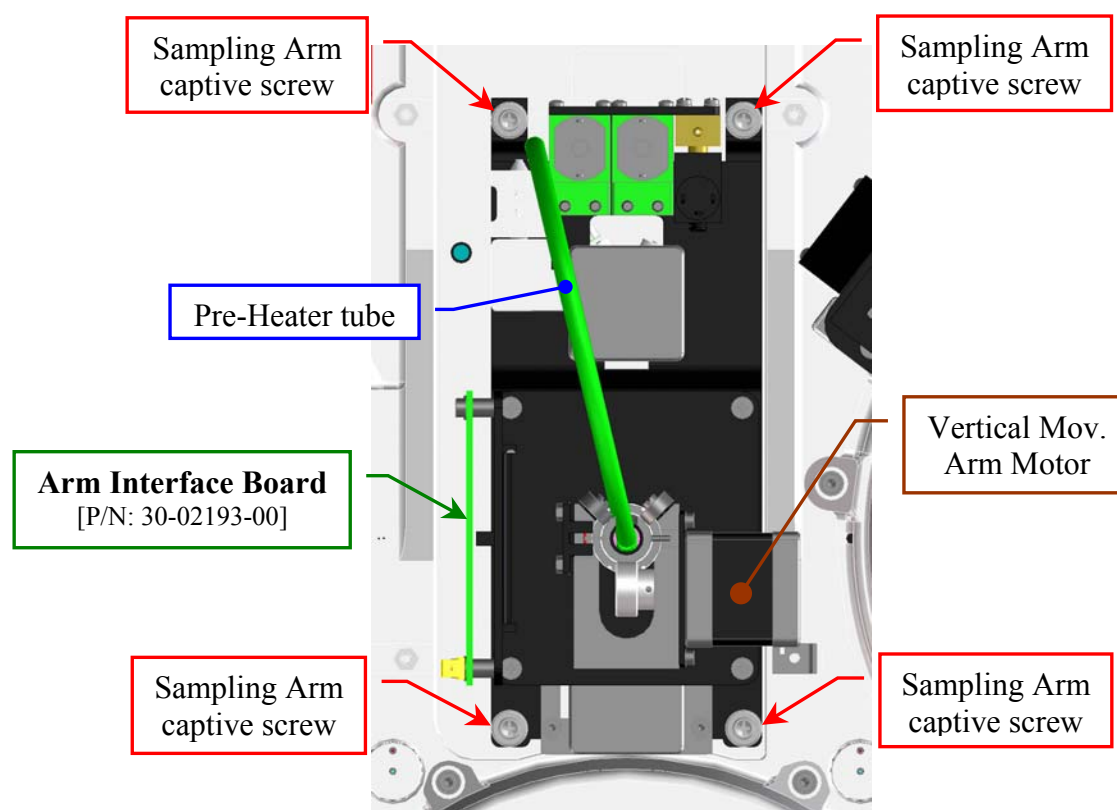

Fig. 10 – Sampling Arm (bottom view)
6. Unscrew the four Sampling Arm captive screws (**Fig. 10**) and pull down – moving carefully – the Sampling Arm Assy from its housing.